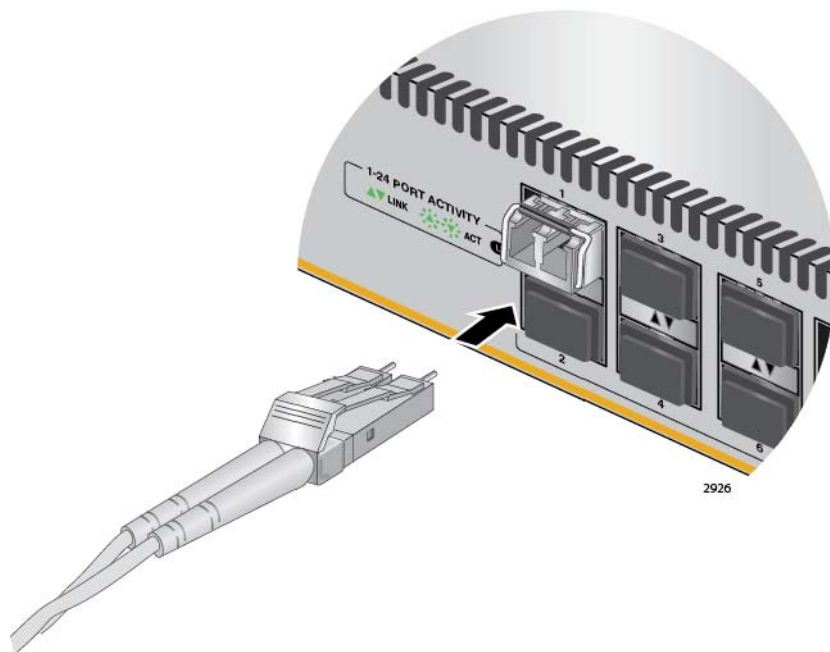

Figure 23. Connecting a Fiber Optic Cable to an SFP Transceiver
7. Connect the fiber optic cable to the transceiver, as shown in Figure 23. The connector on the cable should fit snugly into the port, and the tab should lock the connector into place.